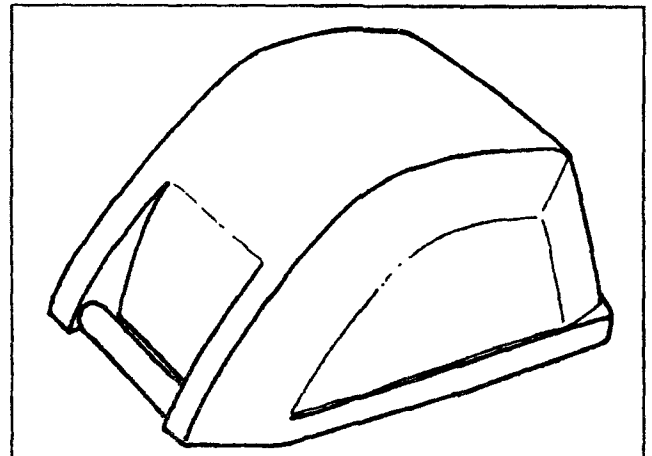

Fig.6
**#4016996 Wheel guard (Fig.6).**